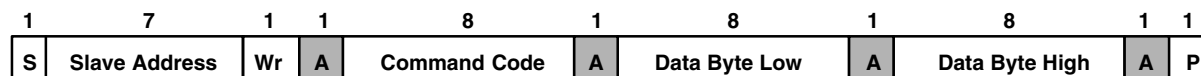
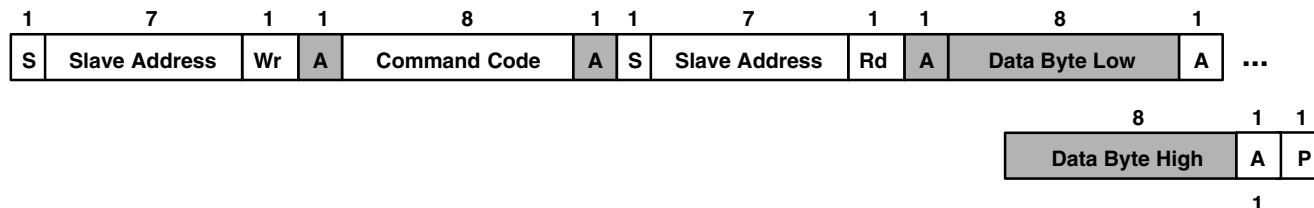

Figure 16. SMBus Write Word Protocol
Figure 17. SMBus Read Word Protocol
- NOTES: 1. An I2C block transaction will continue until the Master sends a stop condition. See Figure 16 and Figure 17. Unlike the I2C protocol, the TCS3404/14 SMBus read/write protocol requires a Byte Count. All eight ADC Channel Data Registers (10h through 17h) can be read simultaneously in a single SMBus transaction. This is the only 64-bit data block supported by the TCS3404 SMBus protocol. The TRANSACTION field must be set to 10, and a read condition should be initiated with a COMMAND CODE of CFh. By using a COMMAND CODE of CFh during an SMBus Block Read Protocol, the TCS3404 device will automatically insert the appropriate Byte Count (Byte Count = 8) as illustrated in Figure 16. A write condition should not be used in conjunction with the 0Fh register.